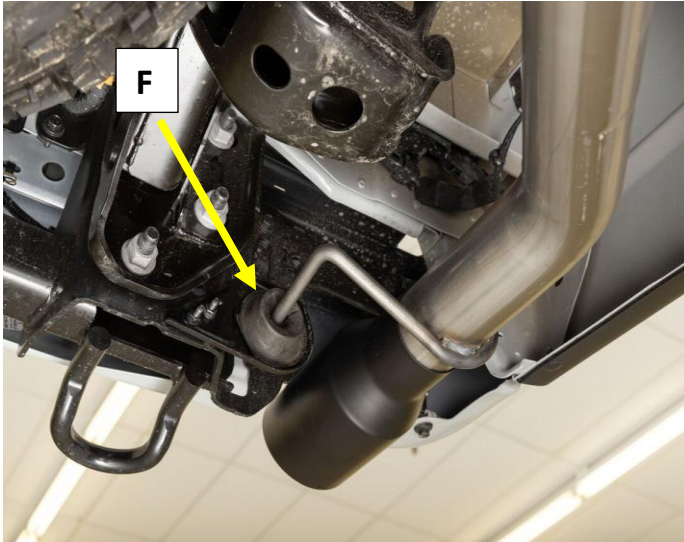

Figure.15
7. Install the Left (F) and Right (G) rear tailpipe hanger assemblies on to the rear tail pipe hanger rods. Install the stud plates into the rear frame bracket and install the nuts. **Fig.15/16**